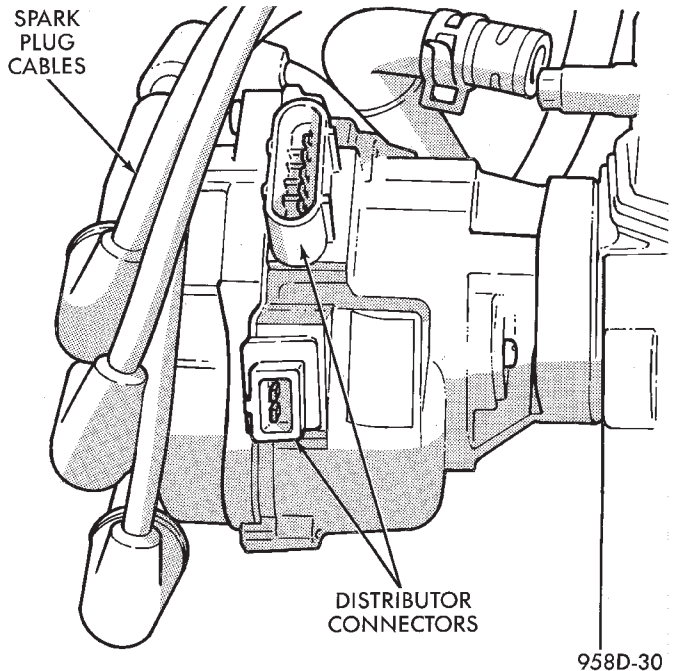

Fig. 49 Distributor Electrical Connectors—Viewed From Rear of Distributor
- (9) Mark the rotor position and remove rotor. The mark indicates where to position the rotor when reinstalling the distributor.
- (10) Remove 2 harness connectors from distributor (Fig. 49).
- (11) Remove 2 sets of distributor holddown nuts and washers from studs.
- (12) Remove bolt and spark plug cable mounting bracket from top of distributor housing.
- (13) Remove bolt and transmission dipstick tube.
- (14) Carefully remove distributor from engine.